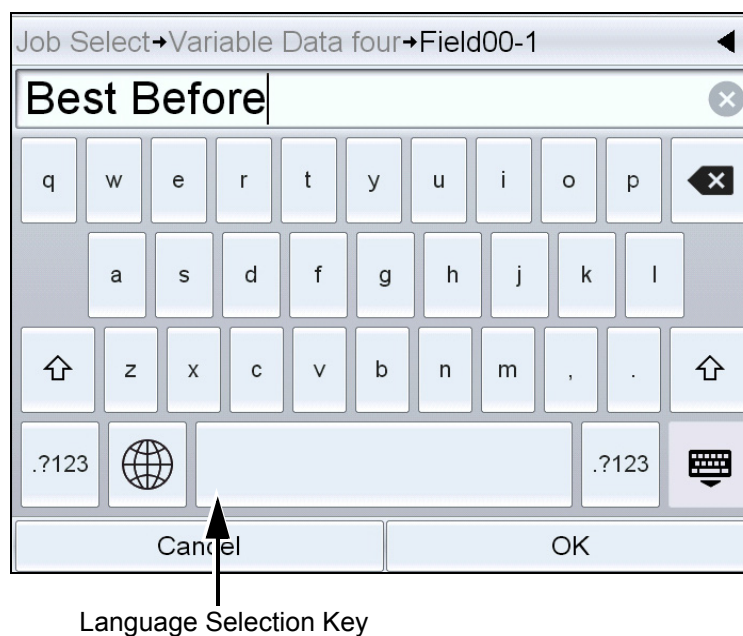

Figure 6-23: Default Keypad
b. Touch the 'Language Selection Key', to access the available language selections (see Figure 6-23).